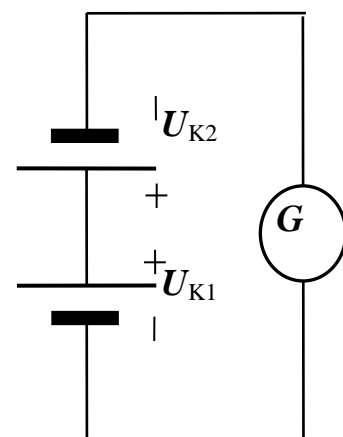

Fig. 6.3.2
The same lock layer appears on contact of semiconductor n-type (2) with metal coating (3). In this case, the contact potential differences are the same and included in the circle to meet. The equivalent circuit of the valve photocell is show in Figure 6.3.2.
In the absence of irradiation, the contact potential differences of  $U_{K1}$  and  $U_{K2}$  are the same in magnitude. They are included in the circle to meet (see Fig. 6.3.2), the potential difference is
This is potential difference is zero and no current passes through the galvanometer because of in circle (Figure 6.3.2) they are included toward each other.